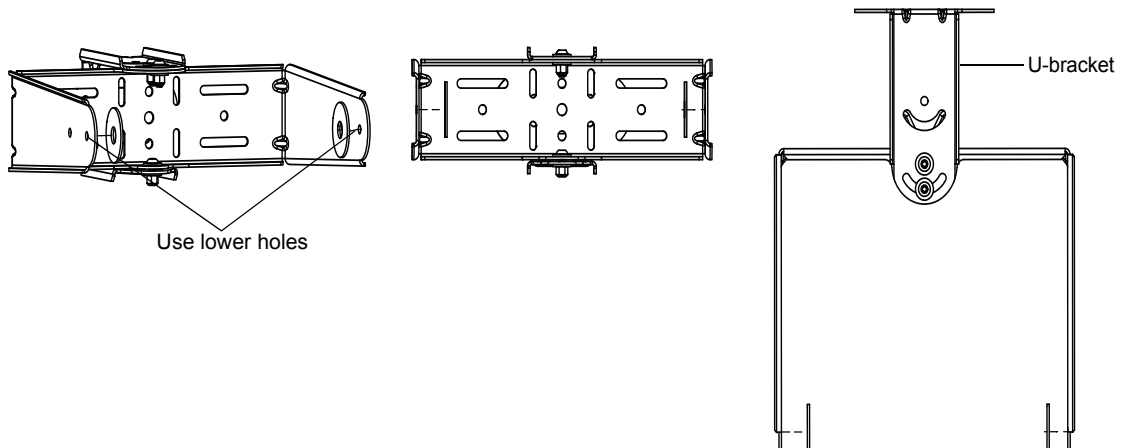

**Figure 2-16** Connecting the U-Bracket to the Yoke
5. Connect the U-bracket to the yoke, as shown in Figure 2-16.